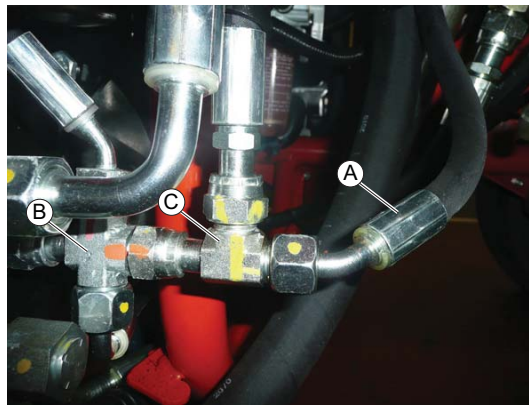

Figure 11
17. Remove hose A Figure 11 from cross B. Fit tee from kit C to cross B then temporarily refit hose A to tee C.
18. Replace hose A in Figure 11 from machine completely and by using hose 4250912 supplied within kit reconnect to tee piece and return tank fitting. Orientate hose to position indicated in Figure 12.